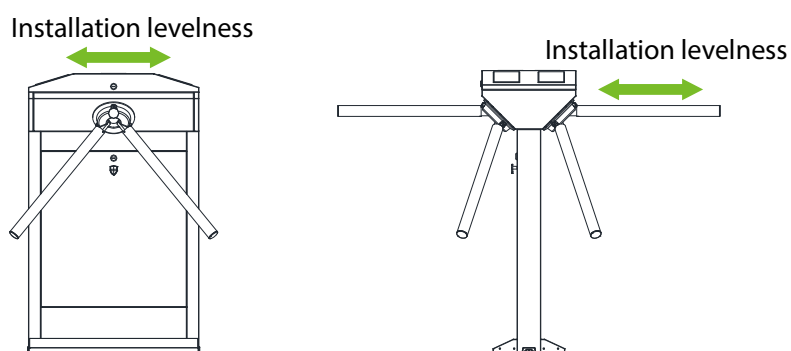

Figure 3-5
3. Put the turnstile on the mounting plate and tighten the screws. Apply screw securing glue before using and putting gaskets on the screws to adjust the direction of the turnstile. If the tripod turnstile is not level, you can place gaskets to adjust, as shown in Figure 3-5.